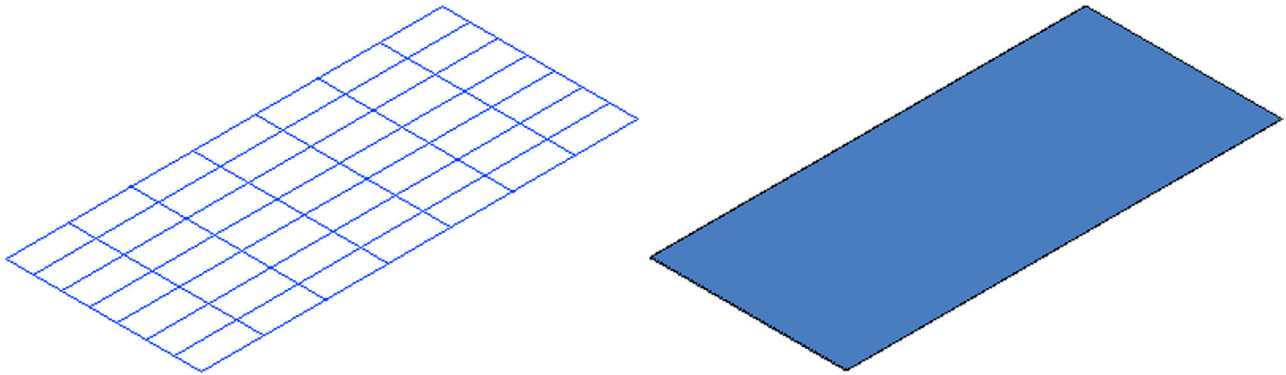

FIGURE 26.2 Rectangle with `planesurf`.
Step 3. Select the diagonally *opposite* corner of the rectangle. A surface is formed, as seen in the wireframe and shade modes in Fig. 26.2.